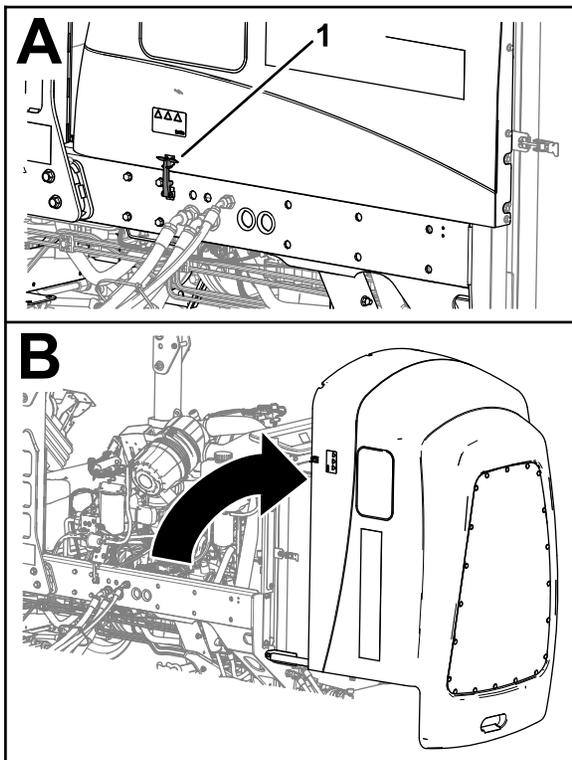

Figure 100
1. Release the 2 hood latches (Figure 100).